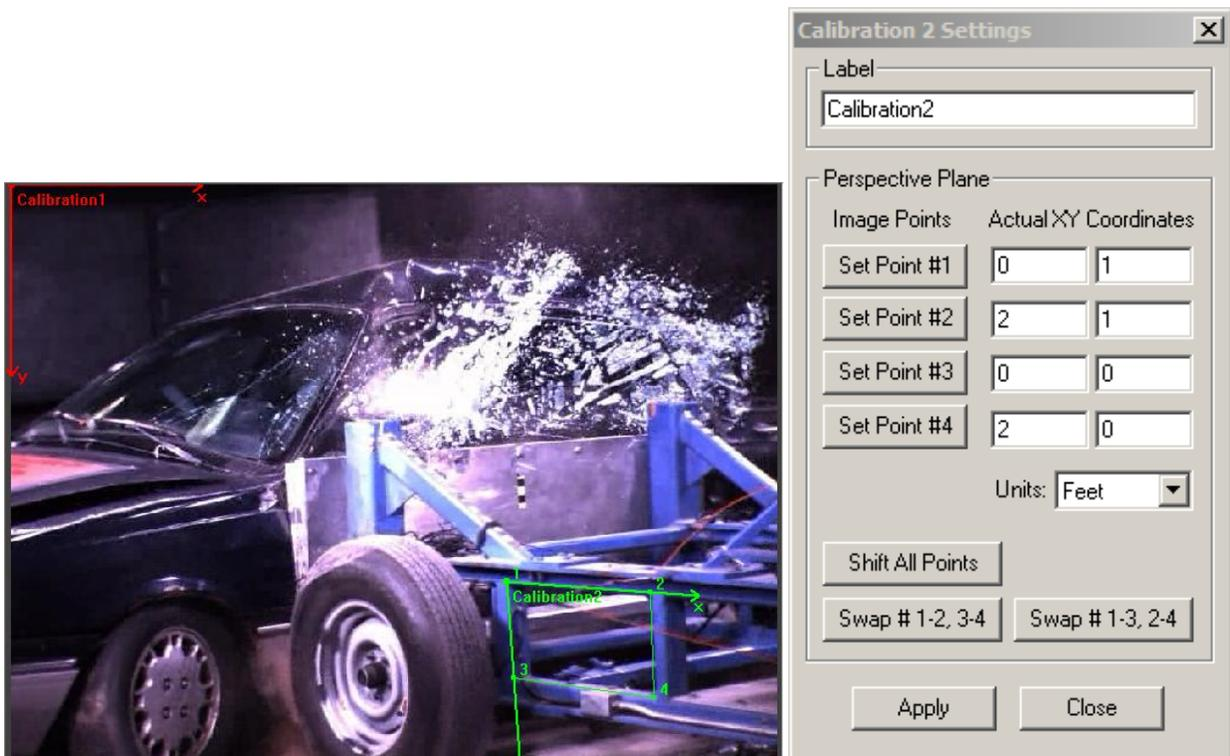

Figure 8. Four points defined for perspective calibration
8. Click the Wrench  icon to open the Calibration 2 Settings window, as shown in Figure 8.
9. We will use a portion of the frame of the ramming vehicle as the rectangular calibration object. Starting at the upper left side, click on a point inside the upper left corner of the frame of the ramming vehicle, then click **Set Point #1** in the Calibration 2 Settings window. Repeat this step for Points 2, 3, and 4, clicking on points at the upper right, lower left, and lower right of the frame as shown in Figure 8.